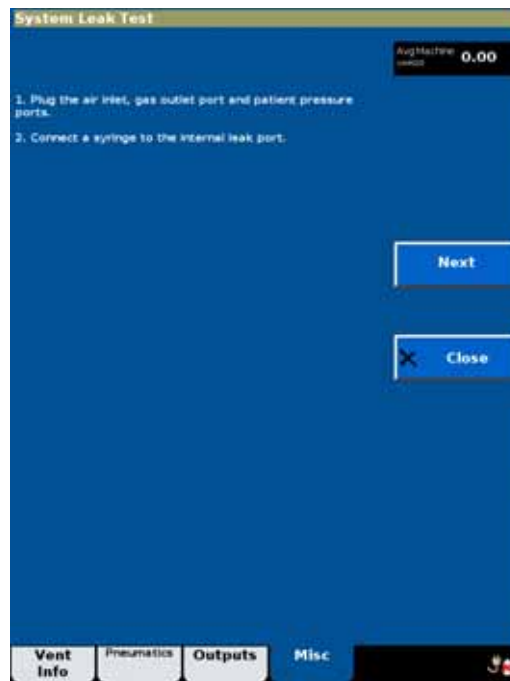

Figure 8-13: System Leak Test Screen
- $\frac{9}{16}$  -  $\frac{3}{4}$  in. tapered plug (2)
4. Touch **Service**, **Misc**, then touch **System Leak Test** and follow the onscreen prompts (Figure 8-13).